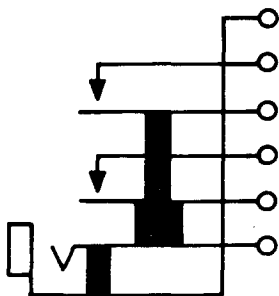

Fig. 7—361C Jack
2.07 **361C:** This single-mounted jack (Fig. 7) is heavily insulated and intended to be mounted with the springs in a vertical plane. The 361C jack is used with the 347 plug.